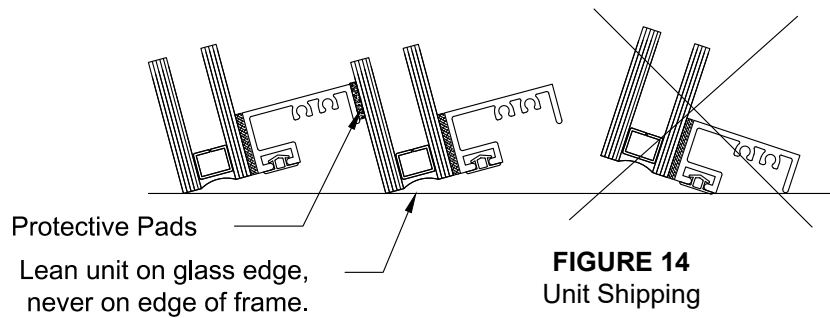

**FIGURE 12**
- 2.11 Remove approximately 4" of protective liner at each corner from the cassette unit. Take care not to touch or contaminate the exposed adhesive. See Figure 12, page 18.